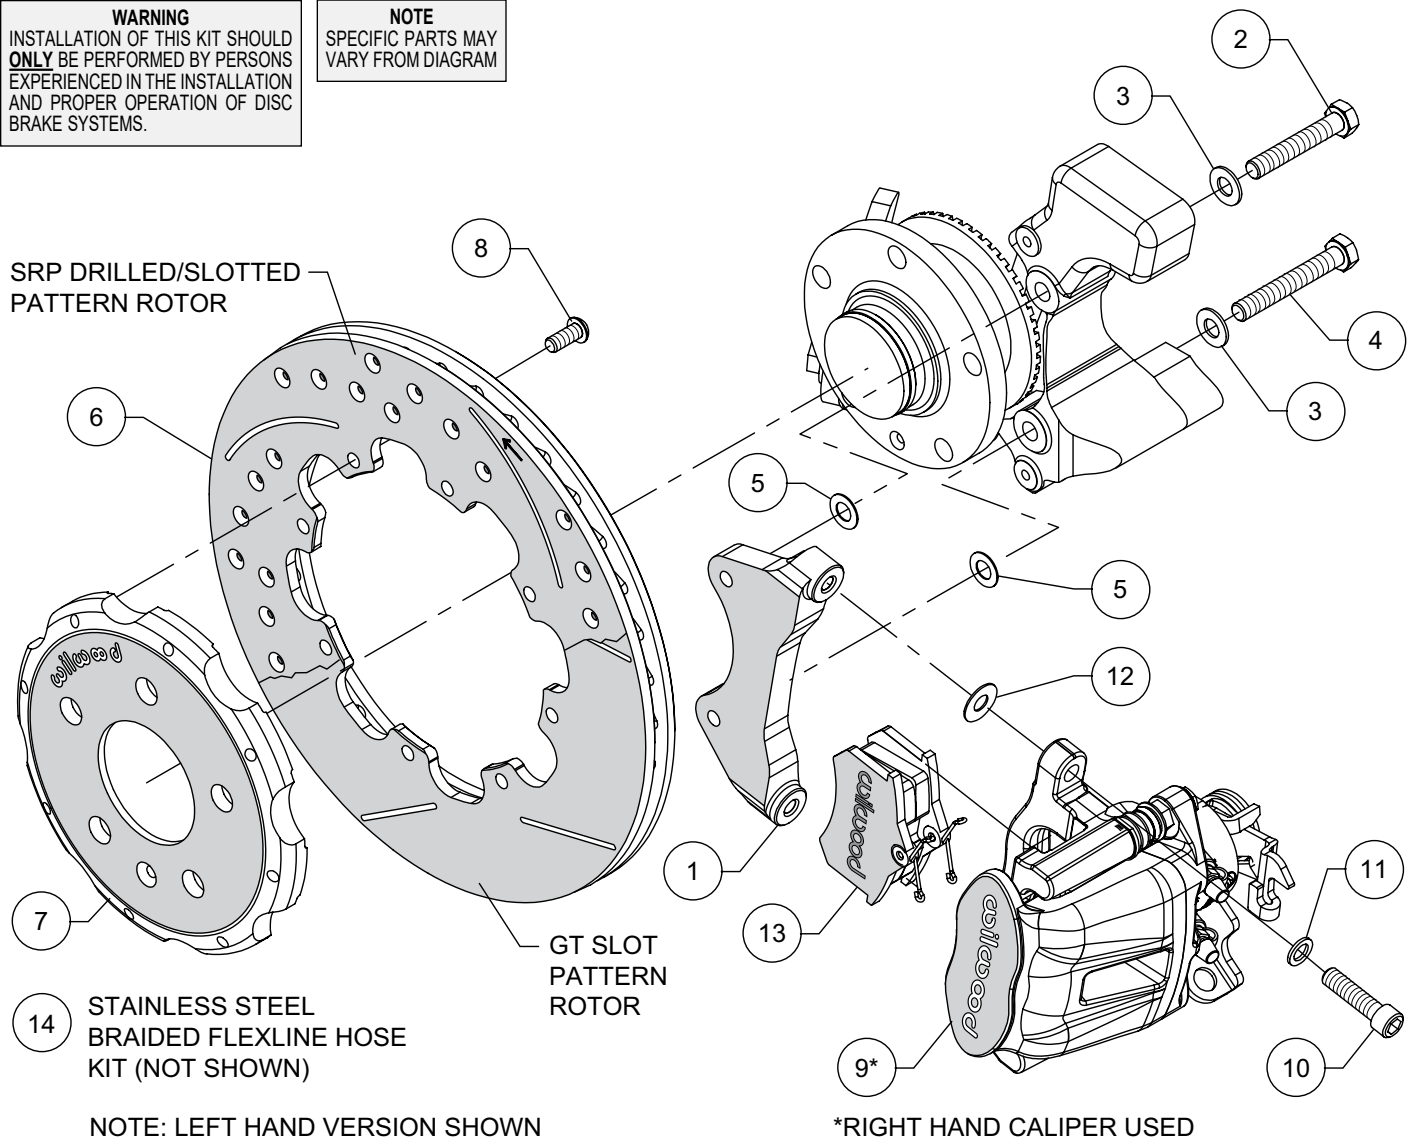

Figure 1. Typical Installation Configuration
NOTE: Numbers in parenthesis refer to the parts list and Figure 1 on the preceding pages.
- The caliper mount bracket (1) should initially be installed with clean, dry threads on the mounting bolts. Orient the bracket as shown in Figure 1, and Photo 2. Install using mounting bolts (2) and washers (3) on the top hole, and bolts (4) and washers (3) on the bottom hole. Initially place one .030" thick shim (5) on each bolt between the bracket and upright, Figure 1. Temporarily tighten the mounting bolts. **NOTE:** The bracket must fit squarely against the mount bosses on the upright. Inspect for interference from casting irregularities, machining ridges, burrs, etc. Later, after the caliper alignment has been checked, the mount bolts will be secured using red *Loctite*® 271.
- Orient the rotor (6) and the hat (7) as shown in Figure 1 and Photo 3. Attach rotor to hat using bolts (8). Apply red *Loctite*® 271 to the bolt threads and torque to 25 ft-lb using a criss-cross pattern.
- Install the brake pads (13) into the caliper (9) from the bottom with the friction material facing the rotor until the "v" spring clip snaps into place against the anvil, as shown in Figure 1 and Photo 6. They should install easily without interference.
- NOTE:** For this kit, the caliper marked "right hand" **MUST** be mounted on the left side of the car, and vice versa. Mount the caliper (9) onto the mounting bracket (1) using bolts (10) and washers (11), as shown in Figure 1 and Photo 7. Initially place one .035" thick shim (12) on each bolt between the caliper and the bracket. Temporarily tighten the mounting bolts and view the rotor (6) from the end of the caliper. The rotor should be centered in the caliper, Photo 8. If not, adjust by adding or subtracting .030" shims (5) between the caliper mounting bracket and the upright to center the caliper on the rotor. Always use the same amount of shims on each of the two mounting bolts. Once the caliper alignment and pad centering are correct, remove the bracket mounting bolts (2 and 4) one at a time, apply red *Loctite*® 271 to bolt threads, and torque to 35 ft-lb. Re-install lower OEM shock bolt.
- Check that the top of the brake pad (13) is flush with the outside diameter of the rotor (6), Photo 9. If not, adjust by adding or subtracting shims (12) between the caliper and the bracket. After the caliper pad height is set, apply red *Loctite*® 271 to bolt threads (10), and torque to 35 ft-lb.